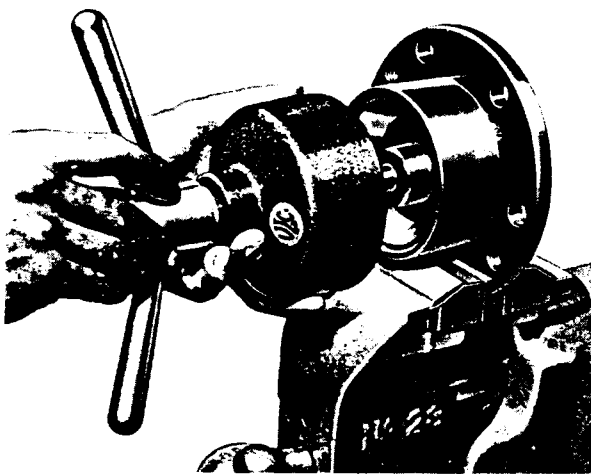

FIG. 19
After removal of pinion (37) from sleeve (40), cups (42) can be withdrawn and replaced as shown respectively in Figs. 19 and 20, using Service Tools FT.23 and FT.24.